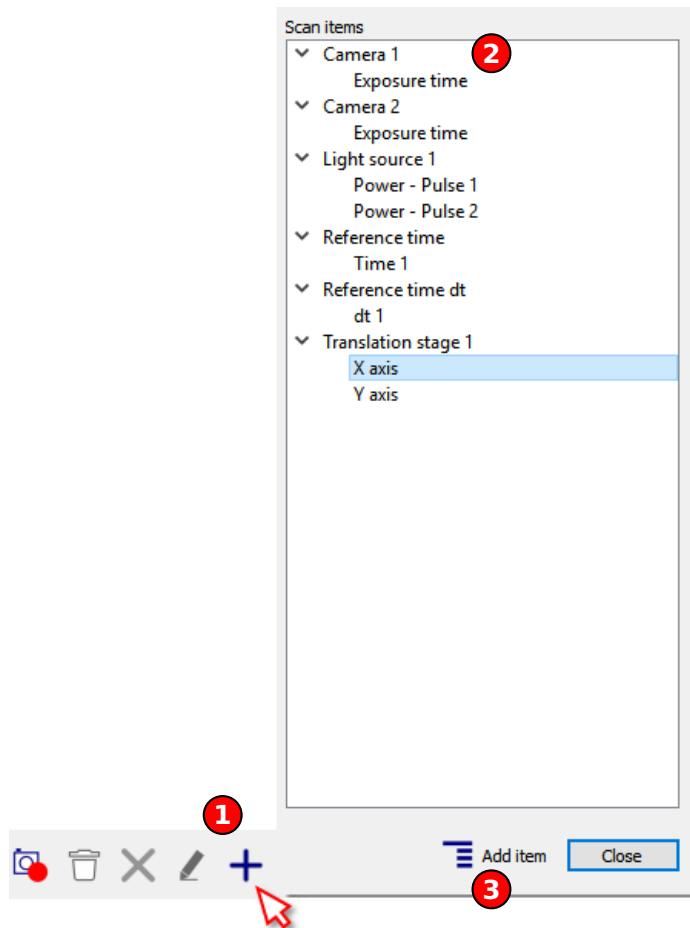

Figure 10.31: Table scan - Add scan item
Opens the scan item selection dialog to add a new item to the table. The dialog is shown in Fig. 10.31 and is explained there in detail.
To start building a scan sequence, open the scan item selection (+ button ① in Fig. 10.31).